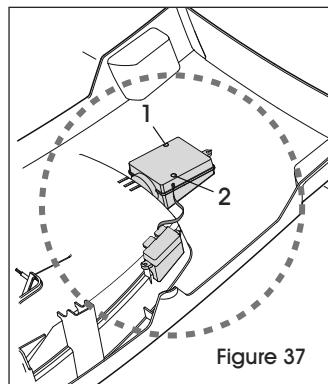

Figure 37
- Unscrew screws 1 and 2 to remove the alarm housing cover. Refer to sticker on alarm housing for battery maintenance information. (See Figure 37)